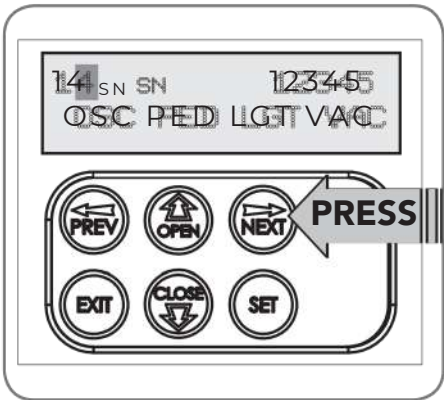

Fig G.4
- e. Press NEXT to reveal the Serial Number (Fig. G.4).